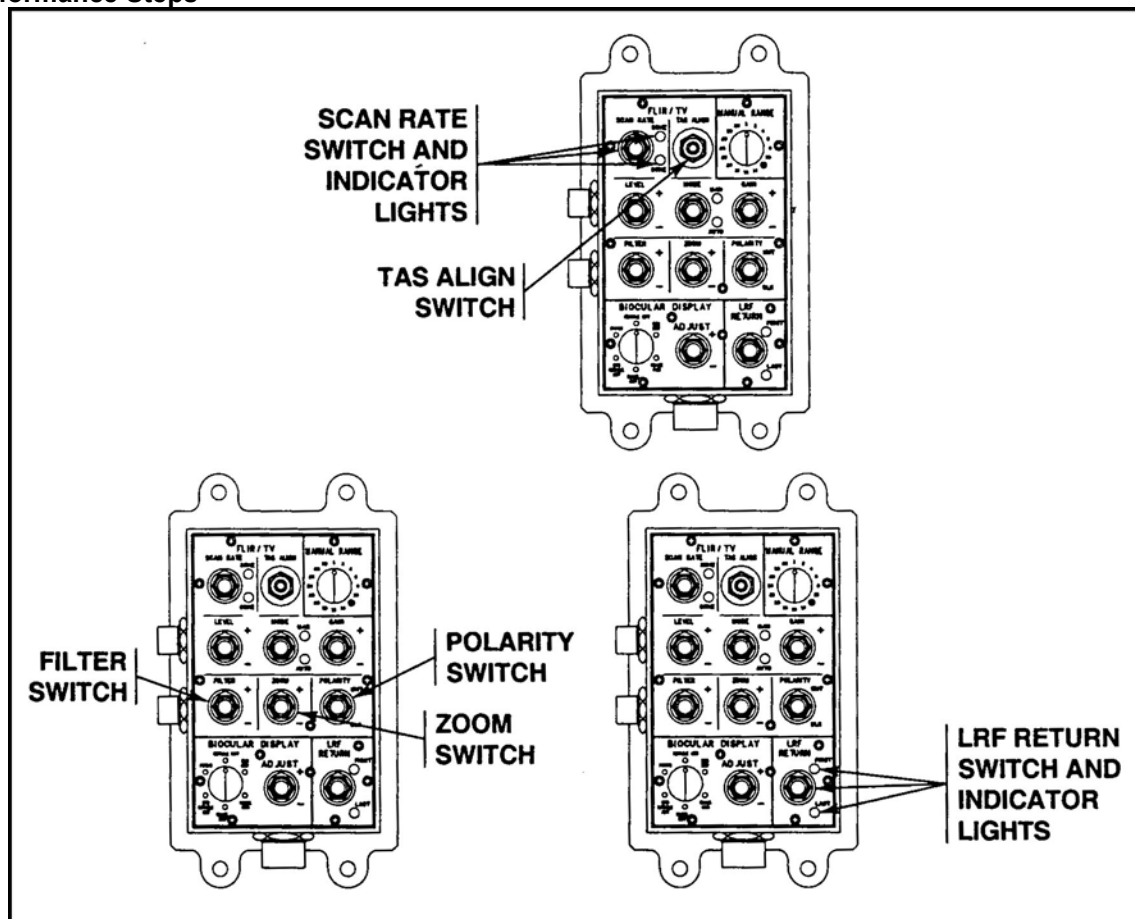

Figure 10. SCAN RATE switch.
- d. Adjust the scan rate (Figure 10).